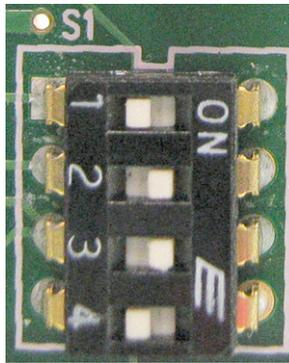

FIGURE 4. RTS Standard Cable (USOC)
NOTE: See Figures 4, 5, 6 for specific switch settings for the type of RJ-45 cable connection used.
Use the Switch Bank, shown in Figure 4, Figure 5, and Figure 6 to configure the cable scheme you want to use. There are three (3) available Ethernet cabling arrangements:
- 7. Using a pen or screwdriver, set the **switches** to the type of operation you desire. For operation modes, see Figure 4, Figure 5, or Figure 6 on page 23.
Because the KP 12 CLD has a separate expansion panel, you must set the mode of operation dip switches within the expansion unit rather than the keypanel unit. Use the Switch Bank, shown in Figure 4, Figure 5, and Figure 6 to configure the mode of operation you desire:
- Using a pen or screwdriver, set the **switches** to the type of operation you desire. For operation modes, see Figure 4, Figure 5, or Figure 6.